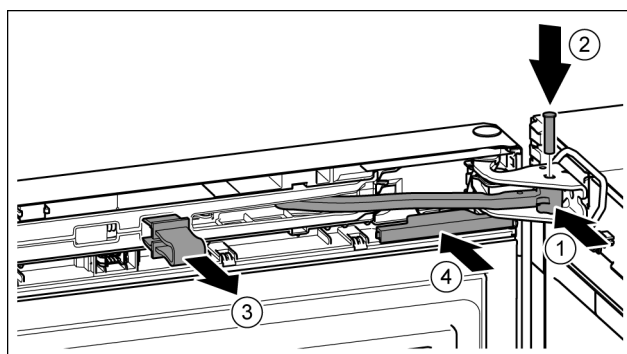

Fig. 22
▶ 铰链转入托架。Fig. 22 (1)
▶ 将螺栓插入托架和铰链。同时注意止动凸轮需正确地处于凹槽中。Fig. 22 (2)
▶ 取下保险装置。Fig. 22 (3)
▶ 插入盖板。Fig. 22 (4)